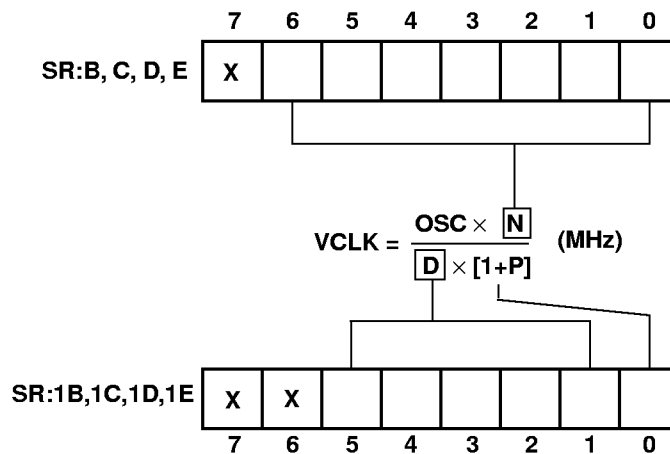

Figure G-2. Programmable Video Clock
For each VCLK, a 7-bit numerator (N), 5-bit denominator (D), and 1-bit post-scalar (P) determines the frequency according to the equation shown in Figure G-2: